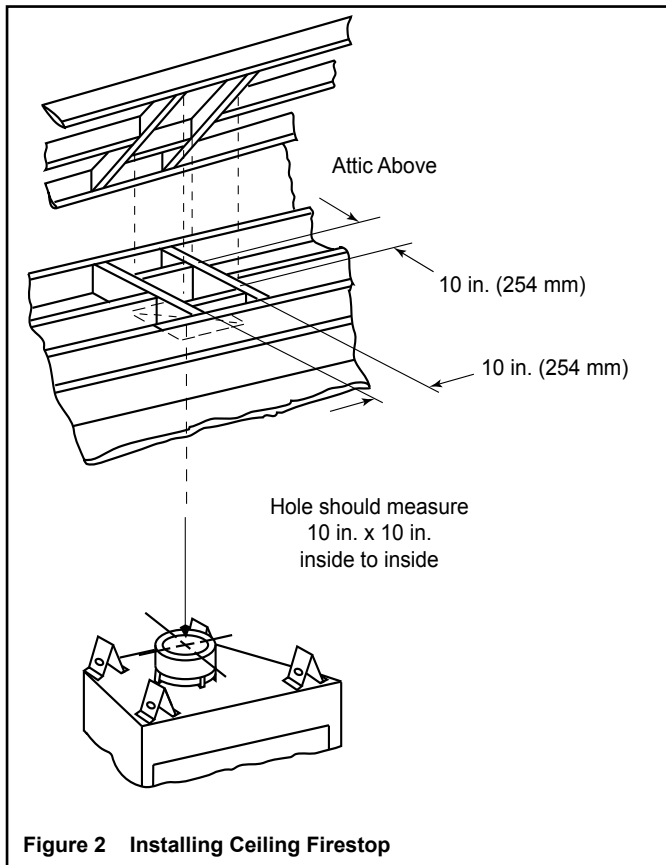

Figure 2 Installing Ceiling Firestop
- Frame an opening 10 in. x 10 in. (254 mm x 254 mm) whenever the vent system penetrates a ceiling/floor (see Figure 2)